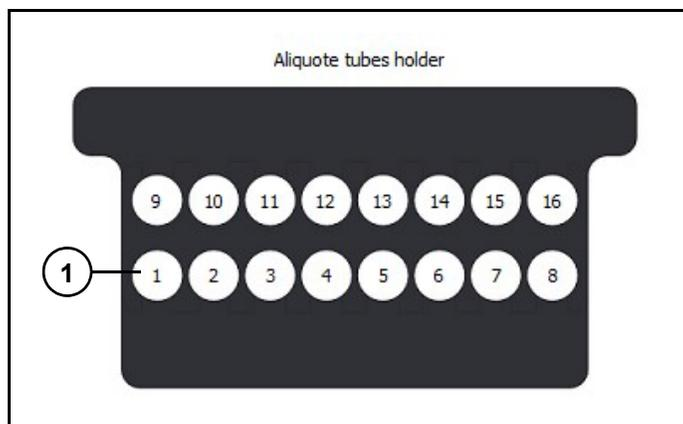

Figure 49
4. Place assay aliquot tubes to be used on assay tube holder located on instrument deck. First assay tube (1) (Figure 49) (used for tip 1) needs to be placed on left end of front rack, and following tubes should be placed in order from left to right on front rack.